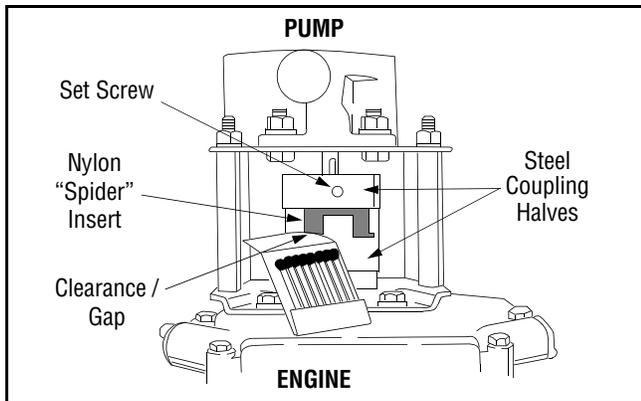

Figure 17
- Set .010” to .060” clearance/gap between the nylon “spider” and the engine coupling half by sliding a feeler gauge (or matchbook cover) between the nylon “spider” and the engine coupling half and moving pump coupling half as needed. Secure pump coupling half with set screw. See Figure 17.